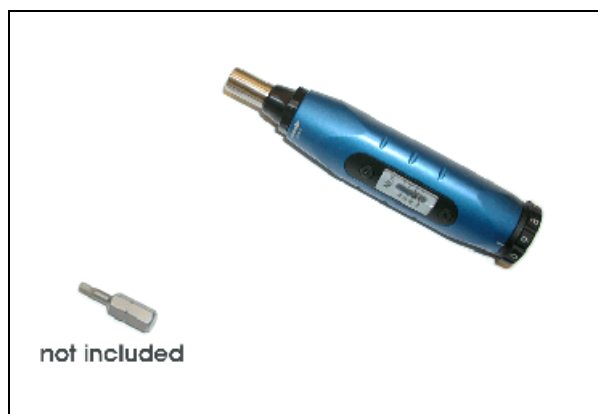

Fig. 1 Torque screwdriver
- Procure the necessary bit/insert in a local hardware store, see Fig.1.